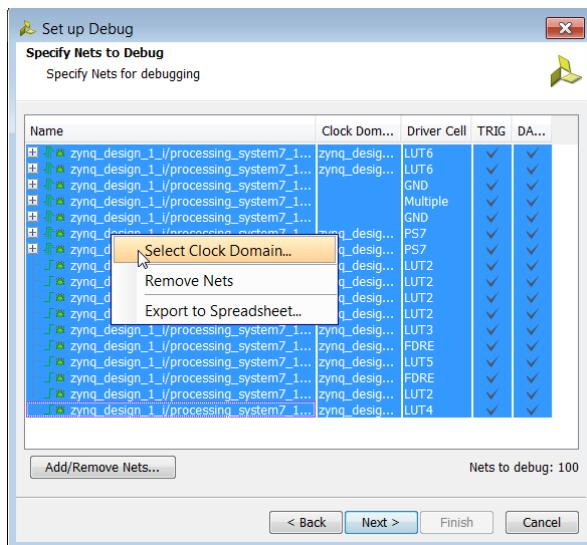

Figure 34: Set up Debug: Select Clock Domain
4. To select the same clock domain for all nets: select one net, or press **Ctrl-A** to select all the nets, and then right-click **Select Clock Domain** (Figure 34).